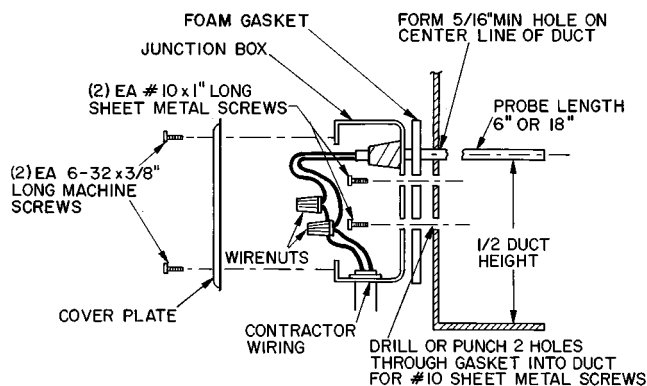

Fig. 26 — Return-Air Temperature Sensor Installation
2. Drill or punch a $\frac{5}{16}$ -in. hole on the centerline of the return air duct as indicated in Fig. 26.